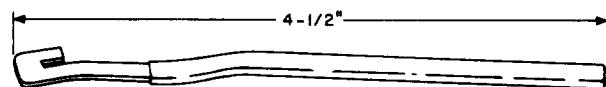

Fig. 11—699A Adjuster Tool
2.12 699A: The 699A tool (Fig. 11) is an adjuster used in adjusting the upper armature support lug of the 324, 325-, and 328-type crossbar switches.